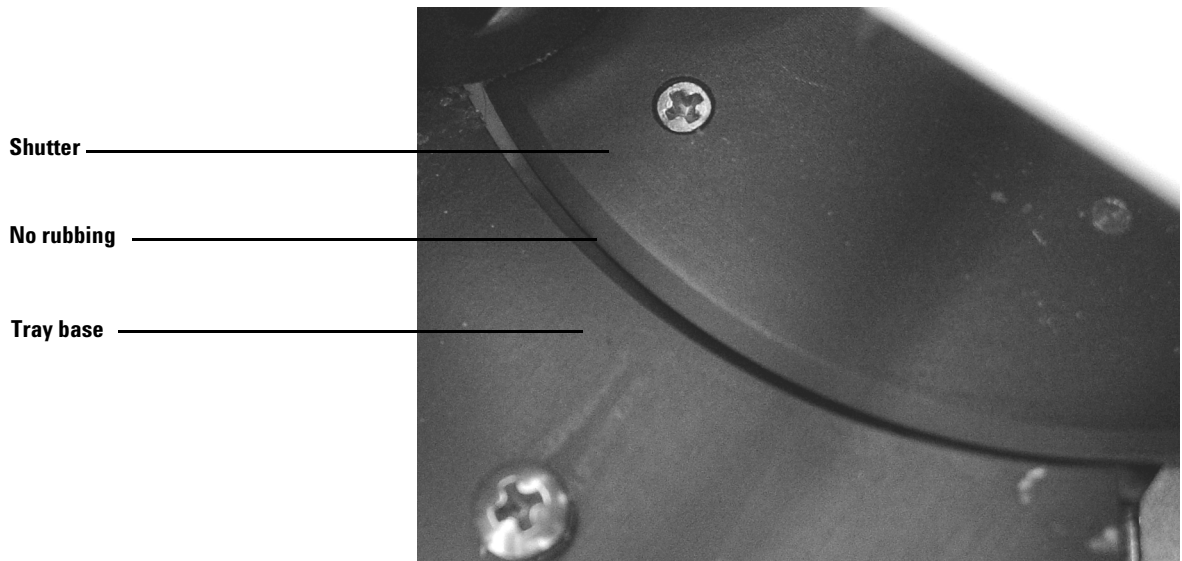

Figure 22 Shutter alignment
- 1 Visually check that the shutter is not touching the edge of the tray base. See Figure 22.